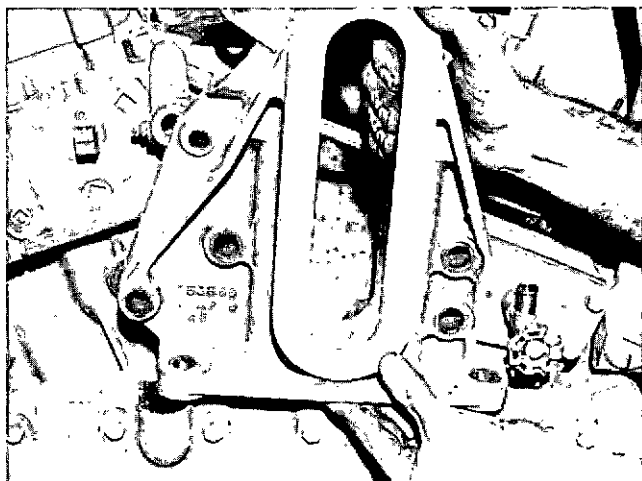

Fig. 0-26, V40059, Removing fan bracket
2. Remove capscrews and lockwashers securing fan bracket to block and gear case cover. Lift off bracket. Fig. 0-26.